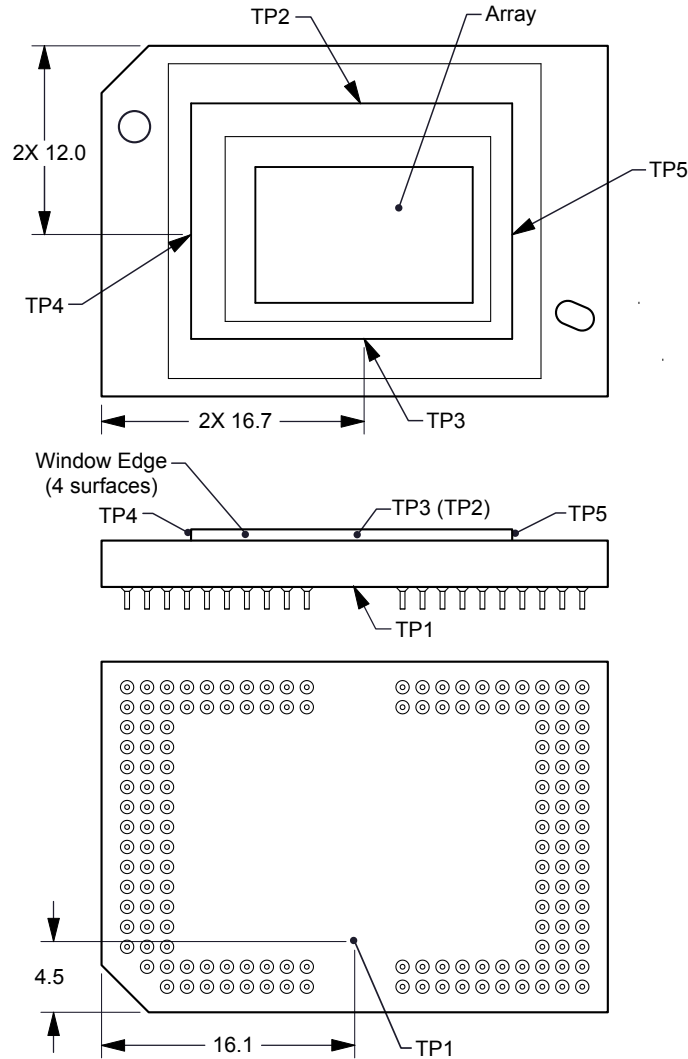

图 6-1. DMD Thermal Test Points
Micromirror array temperature cannot be measured directly, therefore it must be computed analytically from measurement points on the outside of the package, the package thermal resistance, the electrical power, and the illumination heat load. The following equations show the relationship between array temperature and the reference ceramic temperature, thermal test TP1 图 6-1 shown above:
- T_{CERAMIC} = Measured ceramic temperature (°C), TP1 图 6-1
- $R_{\text{ARRAY-TO-CERAMIC}}$ = Thermal resistance of package specified in 节 5.5 from array to ceramic TP1 图 6-1 ($^{\circ}\text{C}/\text{W}$).
- Q_{ARRAY} = Total DMD Power (electrical + absorbed) on the array (W)
- $Q_{\text{ELECTRICAL}}$ = Nominal electrical power (W)
- Q_{INCIDENT} = Incident illumination optical power (W)
- $Q_{\text{ILLUMINATION}}$ = (DMD average thermal absorptivity \times Q_{INCIDENT}) (W)